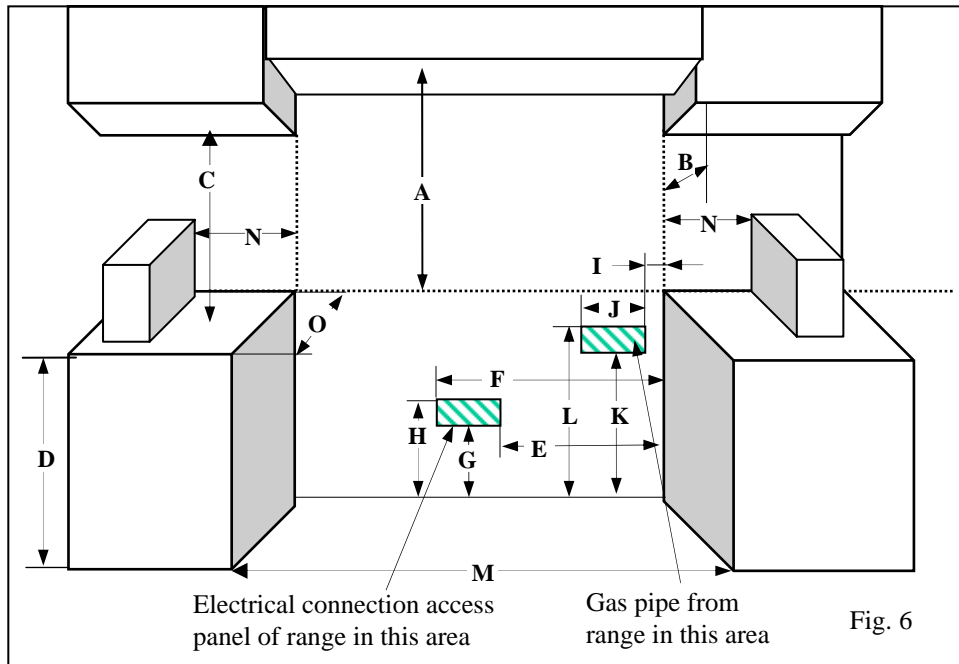

Fig. 6
- The range is a free standing unit. If the unit is to be placed next to cabinets, the clearances shown in Figure 6 are required.